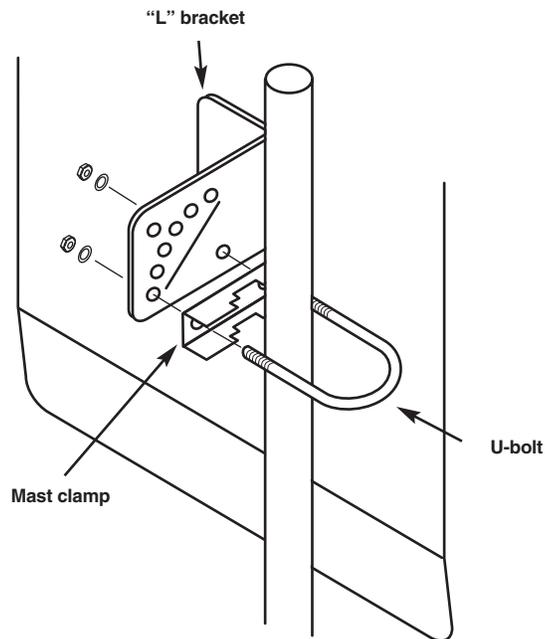
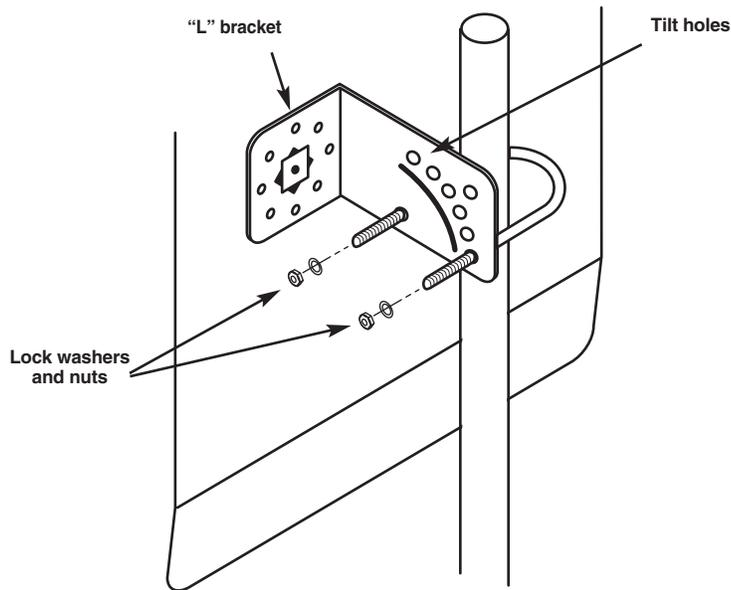

Figure 3-4. Attaching the “L” Bracket.
Figure 3-5. Fastening the U-Bolt on the “L” Bracket.
4. Attach the “L” bracket on the back of the antenna (see **Figure 3-4**). Secure the feed on the front with two carriage bolts. Secure the feed on the back with the lock washers and nuts (see **Figure 3-5**).
- Place the mast clamp on the U-bolt (see **Figure 3-4**). Fasten the U-bolt on the “L” bracket with two lock washers and nuts (see **Figure 3-5**).
Fixed tilt holes provide antenna elevation of up to 60 degrees in 10-degree increments. See Figure 3-5.